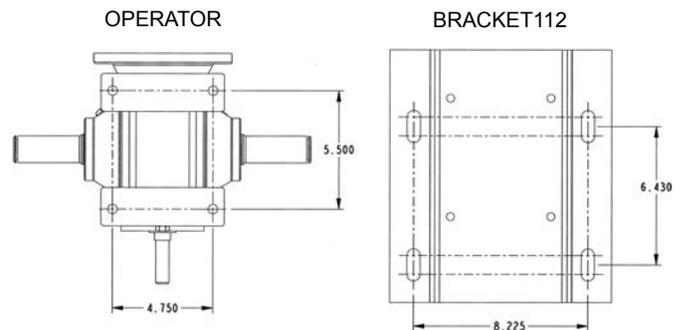

Figure 7 - Mounting Holes
2. Locate the four mounting holes, as shown in Figure 7.